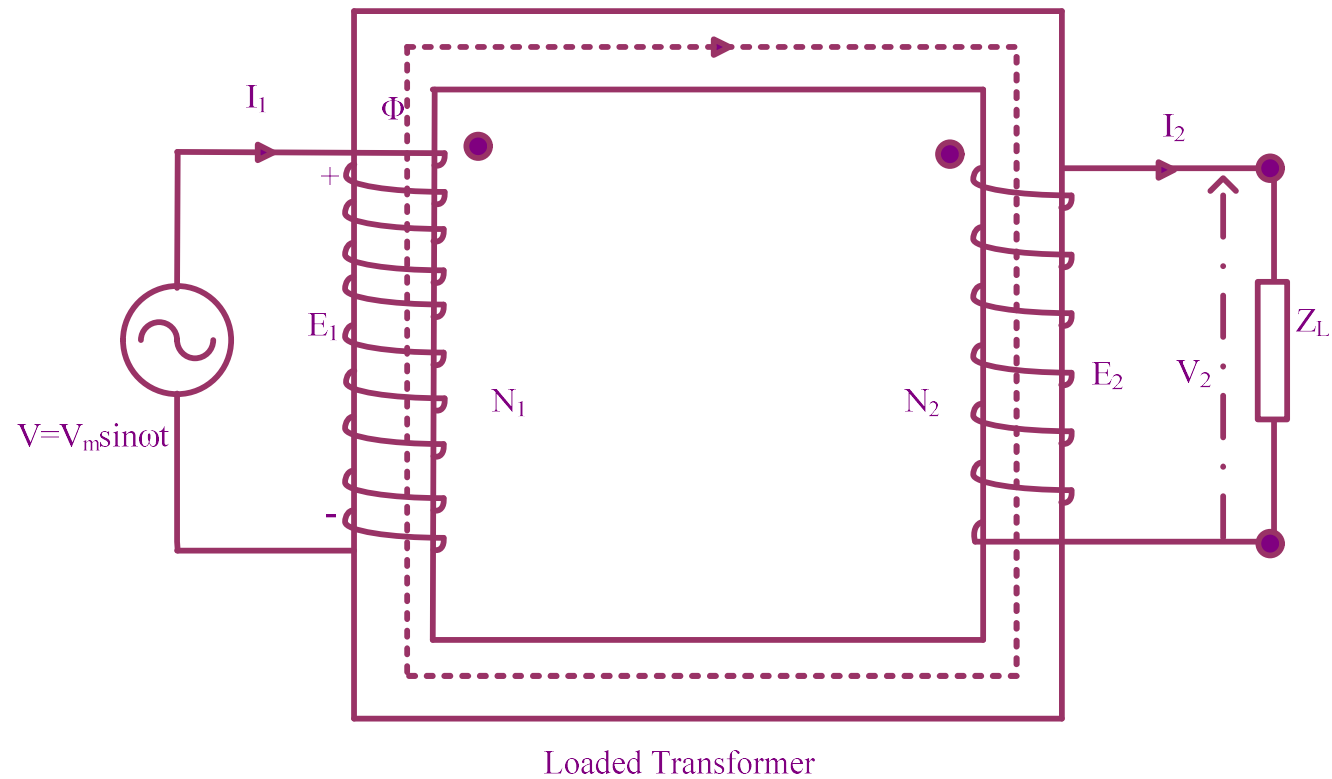

Fig. 2
- A load impedance Z_L is connected across the terminals of the secondary winding, results in load current flows as marked in Fig. 2.